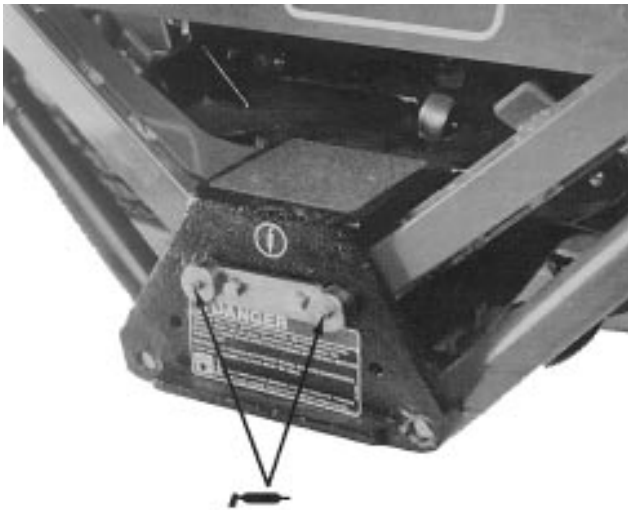
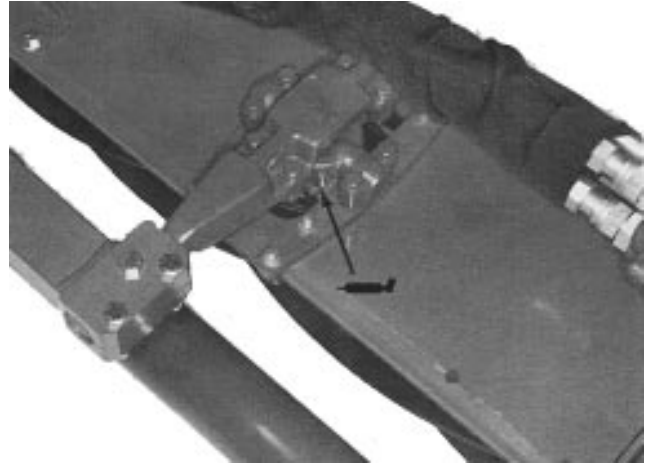
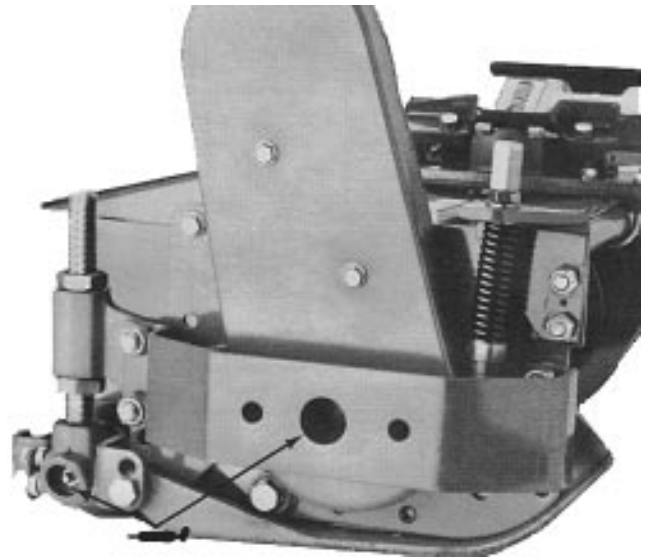

Figure 23
Figure 25
Figure 26
Note: 1 = 800 RPM; 2 = 900 RPM; 3 = 1000 RPM; 4 = 1100 RPM and 5 = 1200 RPM (Fig. 26).
The machine has grease fittings that must be lubricated after every 50 hours of operation with No. 2 General Purpose Lithium Base Grease. Lubricate fitting immediately after every washing regardless of interval listed. The lubrication points are: lift arms (5) (Fig. 23), rear axle (6) (Fig. 24), floating or fixed head kit pivots (Fig. 25) and cutting unit reel and roller bearings (Fig. 26). Also, grease fitting on reel control valve (not shown), located under right hand console.
NOTE: Remove the plastic caps over the fittings on the floating or fixed head kit pivots and replace after greasing (Fig. 25).